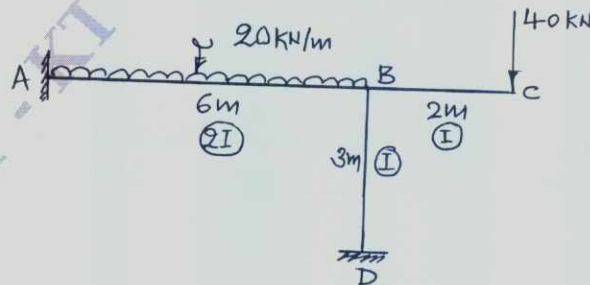

Fig.Q3
- 3 Analyze the frame shown in Fig.Q3 by the method of Moment Distribution. Draw BMD, SFD and also sketch the elastic curve.